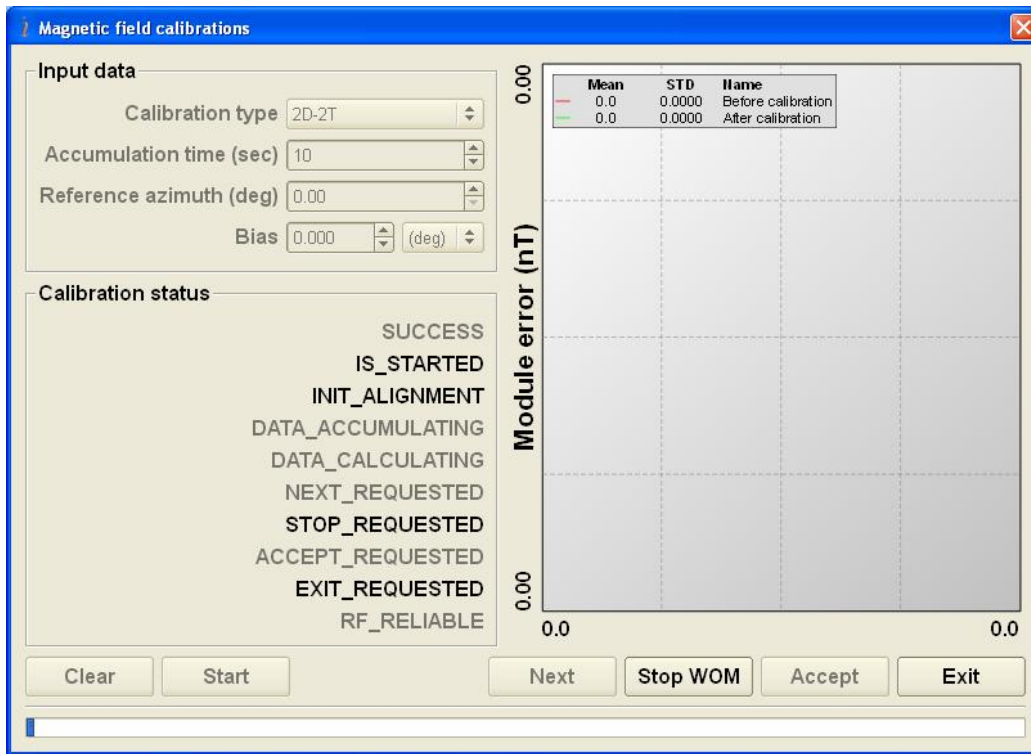

Fig. 10.5
Step 8. Press “Next” button. Initial alignment of the AHRS will start, signified by the highlighted caption **INIT\_ALIGNMENT** (see Fig. 10.5). During the initial alignment, the AHRS should be unmovable relative to the Earth.